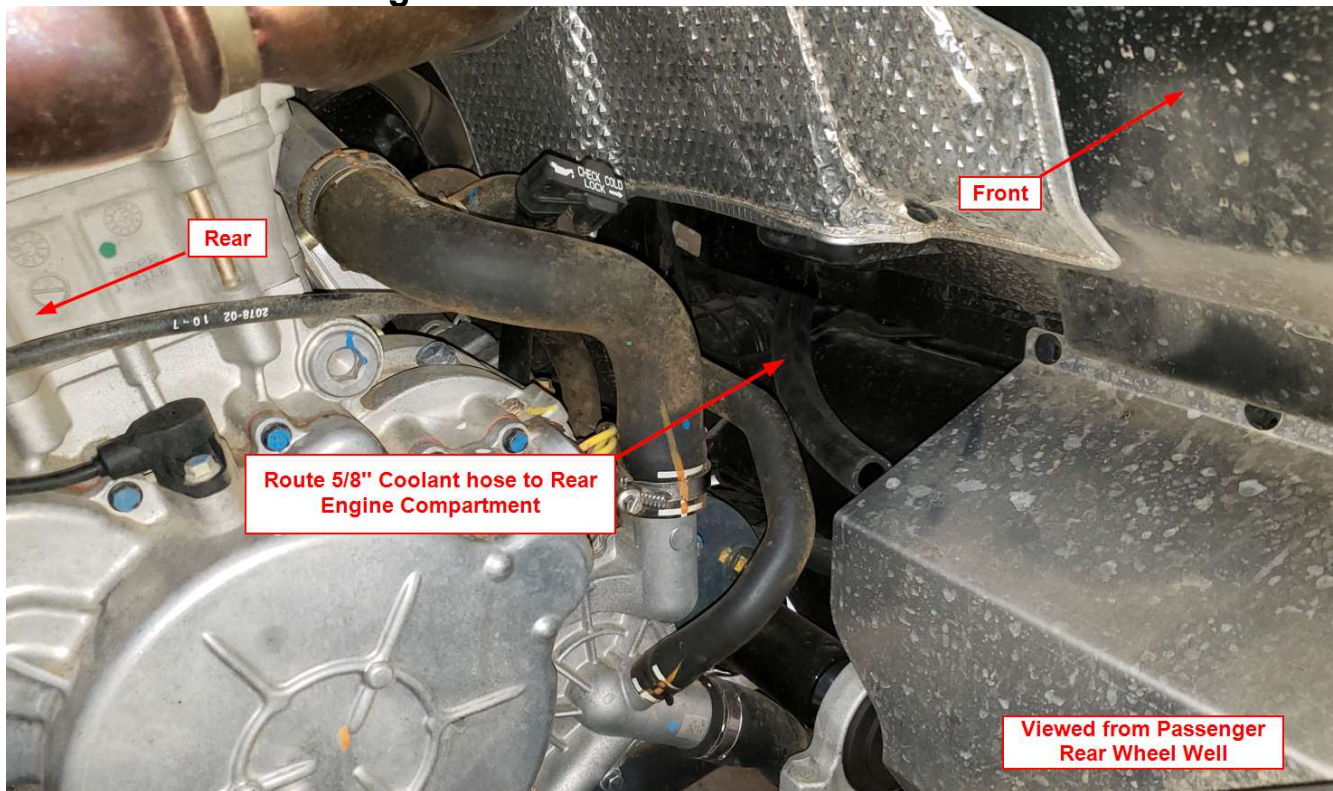

Figure 20
- a. Cut a 6' piece (9' if four seat version) of the 5/8" Heater Hose. From the Center Tunnel, route the 5/8" Heater Hose to the front and rear of the vehicle following the OEM Coolant lines. Refer to Figure 19 and Figure 20.